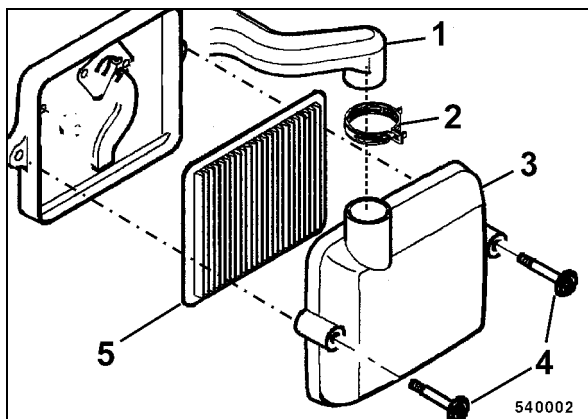

Fig. 74
- Loosen hose clamp (2) (Fig. 74) and pull the air supply hose (1) off the air filter housing.
- Unscrew two fastening screws (4) and remove cover (3) from the air filter housing.
- Pull the air filter (5) out of the housing.
- Assemble the air filter (5) (Fig. 74) and tighten the cover (3).
- Connect the air guide hose (1) to the air filter housing and tighten the hose clamp (2).